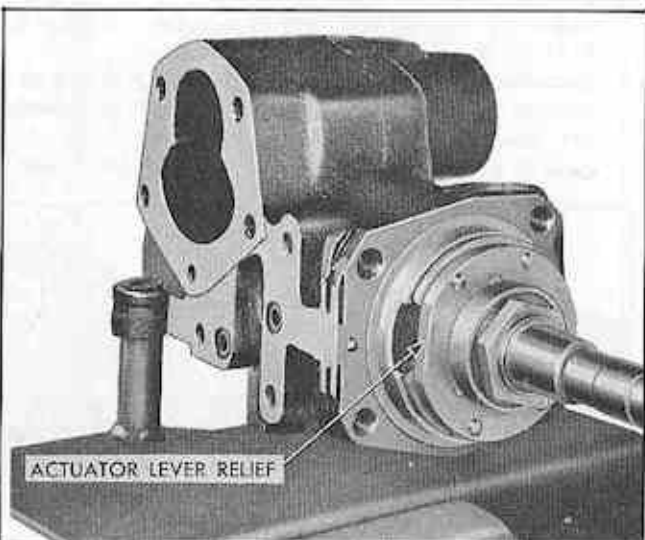

Fig. 82 Actuator Lever Relief Aligned on Adapter
3. Align actuator lever relief on adapter with control valve mounting face on housing (Fig. 82).